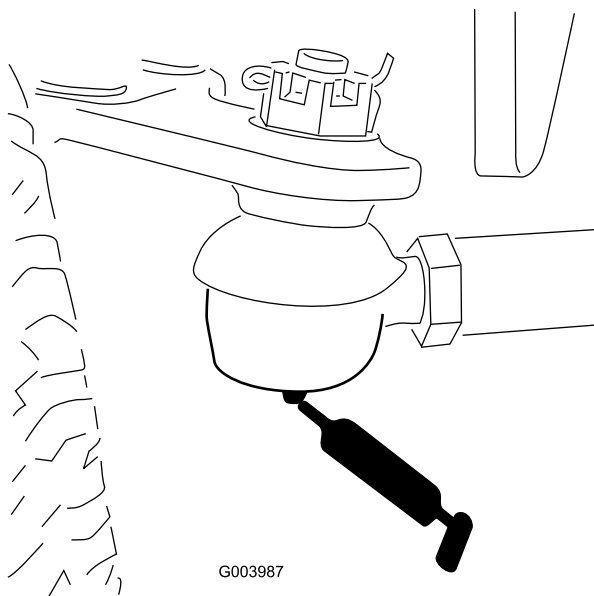

Figure 54
- Rear axle tie rod (2) (Figure 54)